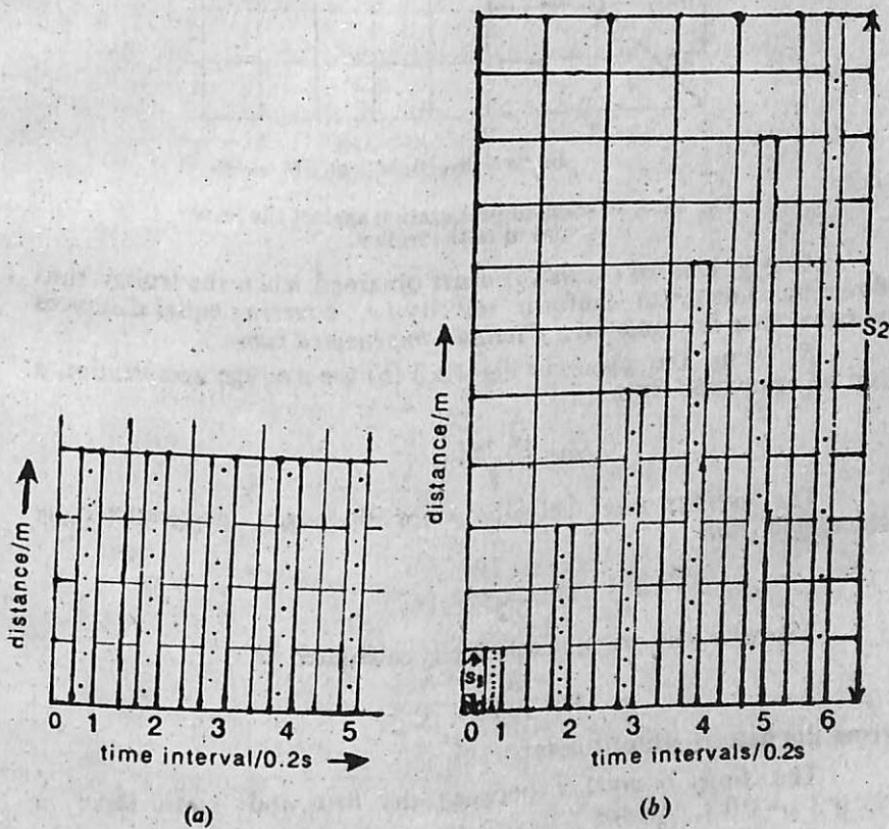

Fig. 12.3. Tape charts for (a) uniform motion on the friction-compensated runway and (b) accelerated motion.
3. After a successful run, detach the tape and, disregarding the first series of dots, cut it up into strips which each represent 10 vibrations or 0.2 s ( $10 \times 0.02$  s). These strips can be stuck on a sheet of graph paper to give a chart like that in Fig. 12.3 (b).
4. Fig. 12.3 (a) shows the chart obtained when the trolley runs down the runway at uniform velocity i.e., covering equal distances in equal time intervals on a *friction-compensated runway*.
5. Using the chart in Fig. 12.3 (b) the average acceleration  $a$  can be calculated from
(ii) When the preliminary adjustments are complete, attach a 3 m length of tape to the trolley and apply a steady force using two or three stretched elastic cords. Using the technique shown in Fig. 12.3 (b); calculate the acceleration  $a$  and hence find  $\frac{1}{a}$  for the single trolley.